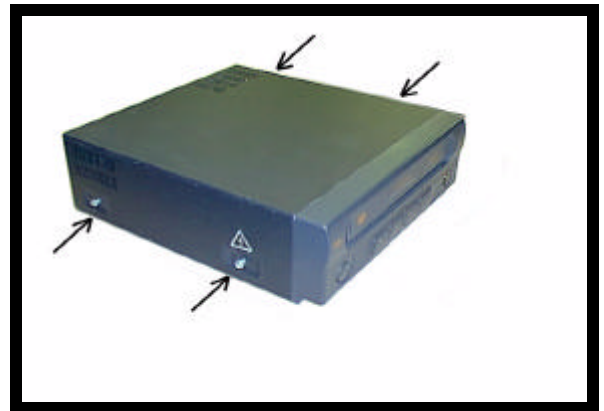

FIGURE 9
10. Remove and discard (4) four screws from VCP. Loosely install (4) four #8 X 3/4" screws (item 1 pg. 2) in those locations. See Figure 9.